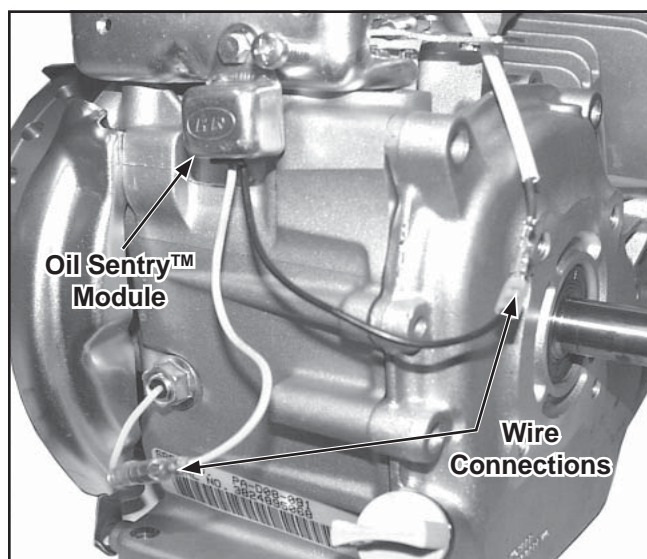

Figure 11-80. Reconnect Electrical Leads.
1. Install the Oil Sentry™ module and secure with one hex screw. See Figure 11-80. Torque the screw to 3.5 N·m (31 in. lb.).
2. Connect the electrical leads for the Oil Sentry™ module. See Figure 11-80.